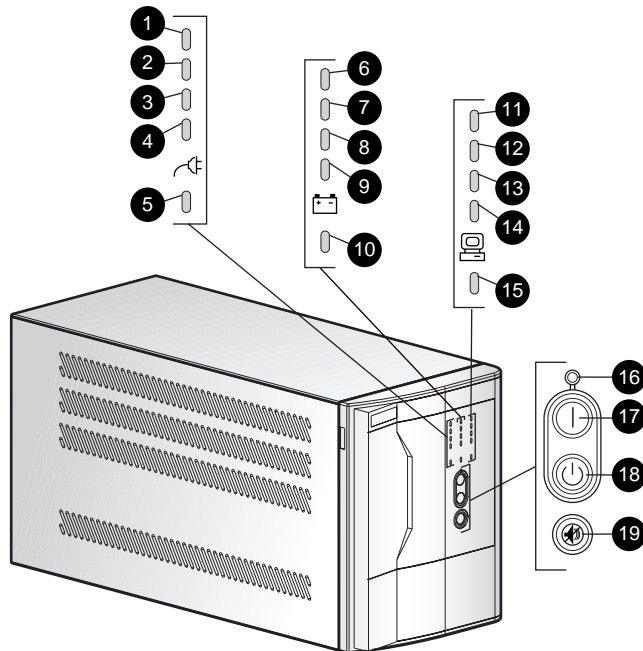

Figure 4-2. The front panel LED display and controls
5. To scroll through the configuration parameters, press the ON button (Ⓜ). The UPS acknowledges compliance with a short beep. Monitor the LED display (see Figure 4-2; LED 1 blinks to indicate that parameter 1 is selected, LED 2 blinks when parameter 2 is selected, and so on).